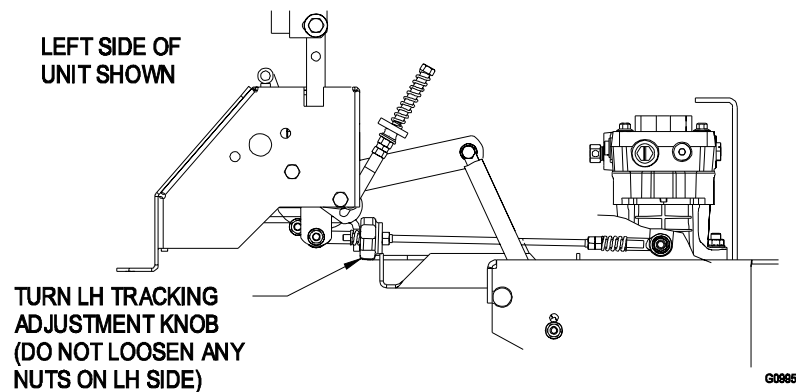

FIGURE 10
- i) Bring the LH motion control lever into the neutral position. Adjust the LH pump control rod length by rotating the tracking adjustment knob in the appropriate direction until the wheels slightly creep in reverse. Move the motion control lever to the reverse position and while applying slight pressure to the lever allow the reverse indicator spring to bring the levers back to neutral. The wheel must stop turning or slightly creep in reverse. See Figure 10.